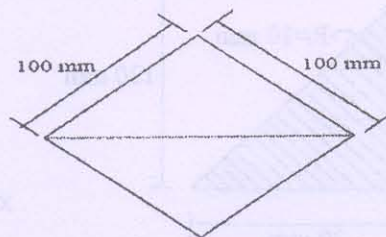

Figure 13
- Figure 13**. If it is subjected to maximum shear force of 100 kN, draw shear stress distribution diagram at N.A.